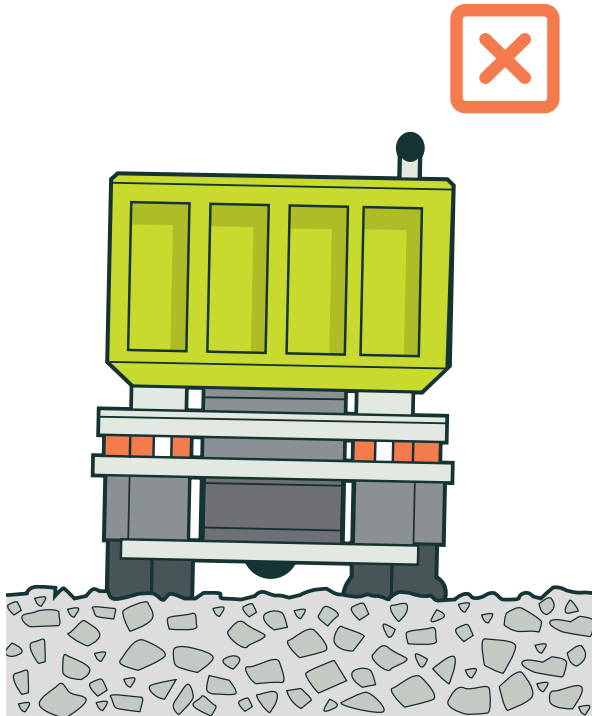

FIGURE 6:
- tyre pressure since low tyre pressure can make the vehicle unstable (see Figure 6).